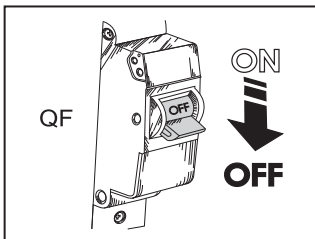
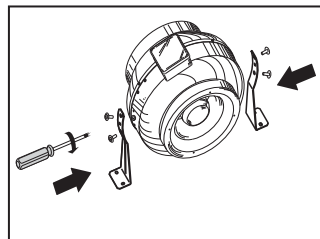

Fig. 7
Fig. 8
1. Cut off power supply, fig. 7;
2. Remove the bolts (5) from the casing (1) and install the mounting brackets (4) in such a way so that the holes on the mounting brackets are aligned with the heads of the screws (6).
3. Fix the mounting brackets on the casing with the bolts, fig. 8.